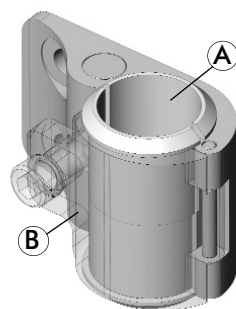

**Fig. 4**
- 2 Loosely install the Cane Clamp Assembly (B) onto each back cane in the desired configuration- refer to **Fig. 4** and **Fig. 5** for an installation overview.